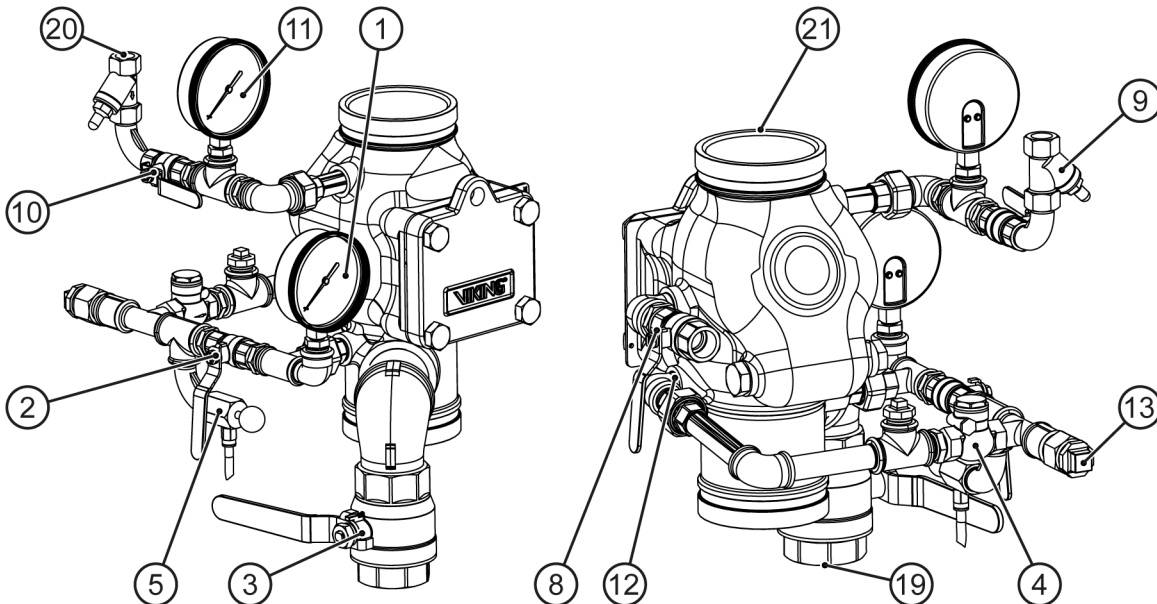

Fig. 21: Dry pipe alarm valve set DRV-1
2. ▶ Make sure that the ball valve "pressurized air supply" (Fig. 21/10) is open. Only the alarm test valve (Fig. 21/2) can be closed.
4. ▶ Both drain ball valves (Fig. 21/3+8) must be closed.
If compressed air escapes from the hose of the automatic drip check valve (Fig. 21/5), the valve clapper is not closed properly. The space below the valve disk must be under ambient pressure.
Quickly open and close the main drain valve (Fig. 21/3). The valve clapper should be closed.
Wait until the pressure gauge "water supply" (Fig. 21/1) displays full water supply pressure.
If water is constantly flowing from the hose of the automatic drip check valve (Fig. 21/5), the groove seal of the valve disk is leaking. In this case, close the control unit in the water supply line again, release the compressed air fully and check or replace the O-rings and the guide ring of the valve disk.